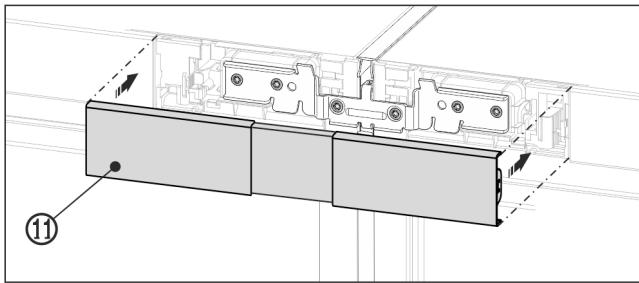

Fig. 21 Example illustration
- ▶ Snap the top cover Fig. 21 (11) onto the still open gap between the two control panel trims. Make sure that the outer sides of the cover form a flush finish with the control panel trims.